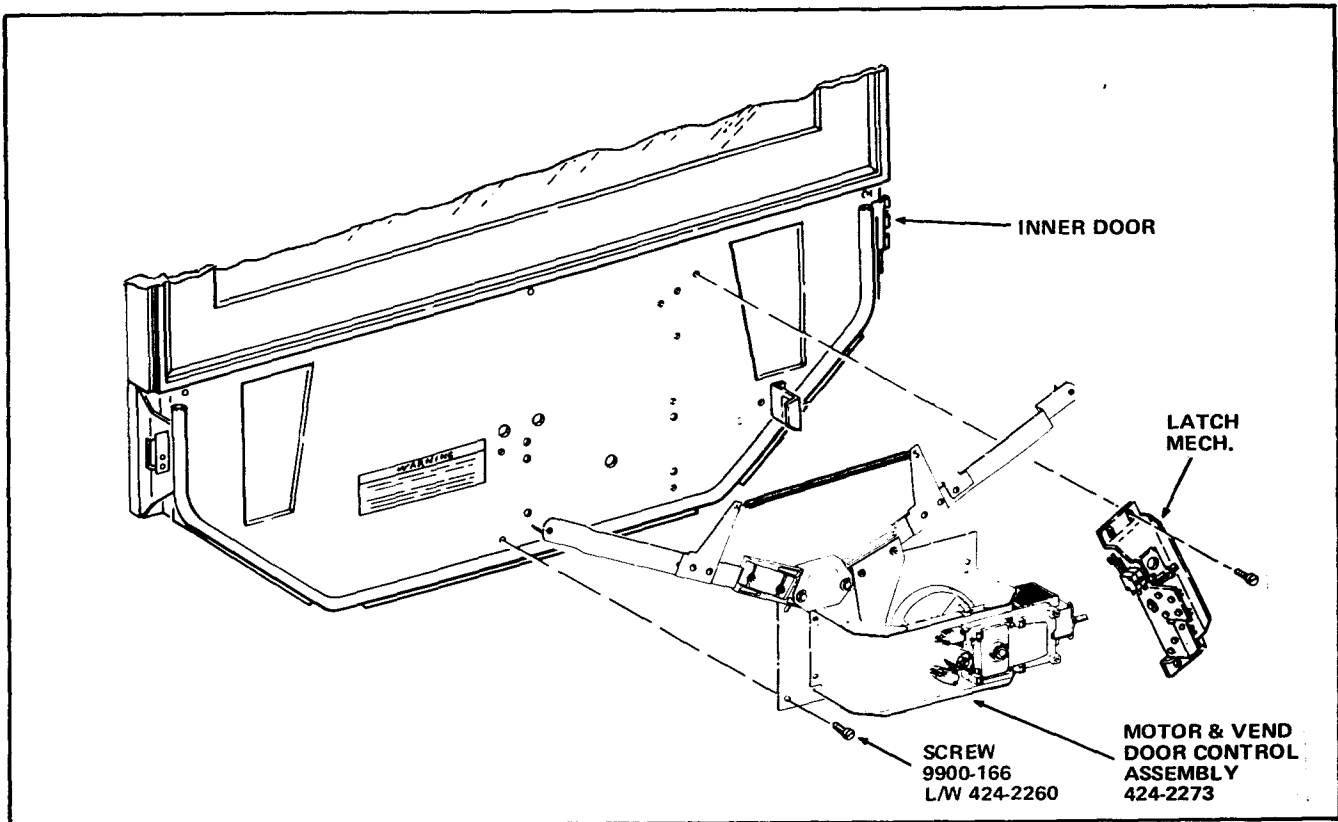

FIGURE 4
1. Position the Motor and Vend Door Control Assembly, part number 424-2273, included in the Kit on the Inner Door so that the Vend Door is resting on the two Control Arm Rollers and the four holes in the Motor and Vend Door Control Assembly are aligned with the four holes in the Inner Door Bottom Panel. Attach with the four Screws, part number 9900-166, and four Lockwashers, part number 424-2260, included in the Kit. See Figure 4.
2. Install on the Inner Door Bottom Panel the four attaching Screws and the Latch Mechanism Assembly removed in Step A-10. See Figure 4.